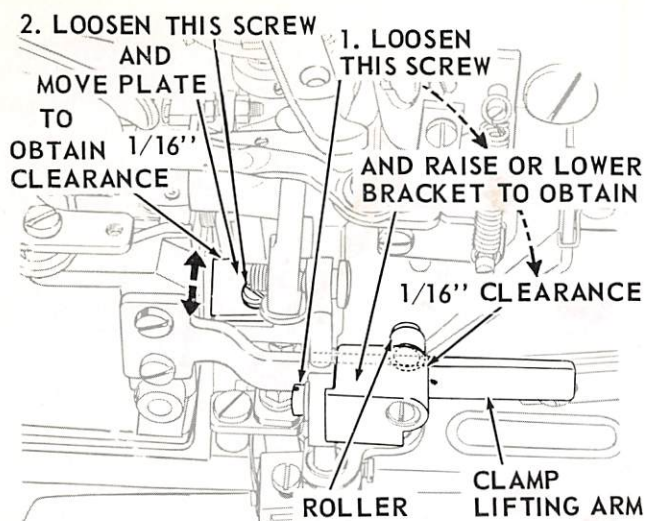

Fig. 81. Latch-Tripping Plate Adjustments
1. With machine in "stop" position, loosen clamp roller bracket screw, shown in Fig. 81, and raise or lower bracket as required to obtain approximately 1/16 inch clearance between roller and clamp lifting arm. Securely tighten screw.
2. Loosen latch-tripping plate screw, shown in Fig. 81. Move plate toward right or left as required to obtain 1/16 inch clearance between latch and plate. Tighten screw and check for correct action. Cutting blades should move just before clamp begins to rise. Reset clearance between latch and plate as required, before finally tightening plate screw securely.